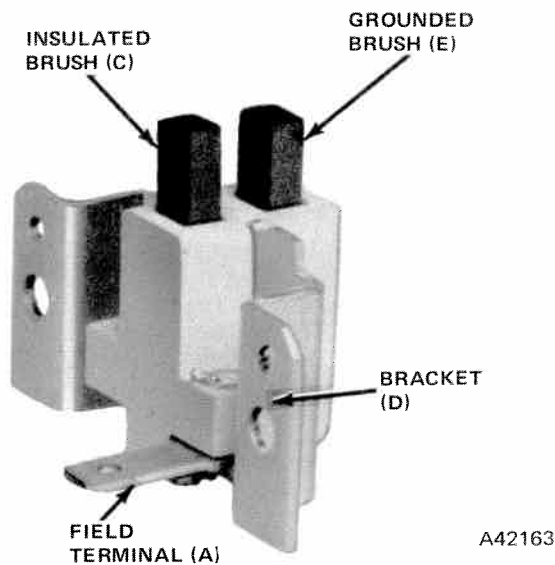

Fig. 3-17 Brush Assembly
The complete brush assembly is available for replacement (fig. 3-17).
(1) Connect an ohmmeter to field terminal and insulated brush. Use an alligator clip to assure good contact to brush at test points A and C (fig. 3-17). Resistance reading should be zero.
(2) Move brush and brush lead wire to make certain that the brush lead wire connections are not intermittent. Resistance reading should not vary when brush and lead wire are being moved.
(3) Connect ohmmeter to bracket and grounded brush, test points E and D (fig. 3-17). Resistance reading should be zero.